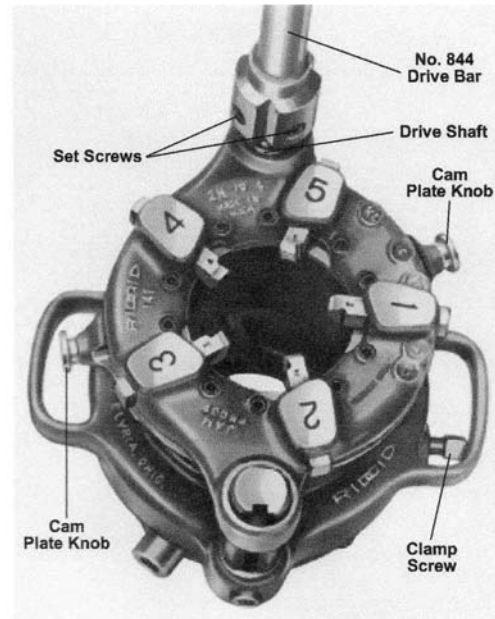

Figure 15 – No. 141 Geared Threader with No. 844 Drive Bar Installed (No. 161 Threader Similar)
2. Pull knobs (Figure 15) of cam plate and rotate cam plate to desired pipe size marking on top of die head. Release knobs when locating pins drop into hole in selector plate.
2. Pull Knobs (Figure 15) and rotate cam plate to CD mark on top of die head.
3. Remove worn die set (Figure 15) and insert new die set.
1. Place threader on floor or workbench with drive shaft up. Install No. 844 Drive Bar on threader drive shaft and tighten two (2) set screws (Figure 15).